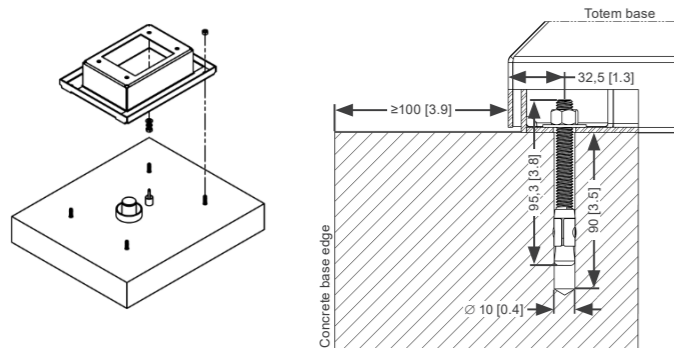

Figure 4.8: Details of the mounting points - mm [in]
The base of the totem should be fixed to the concrete base using four (04) anchors (3/8"), supplied with the product, which should be drilled or pre-cast as per the distances indicated in Figure 4.8.